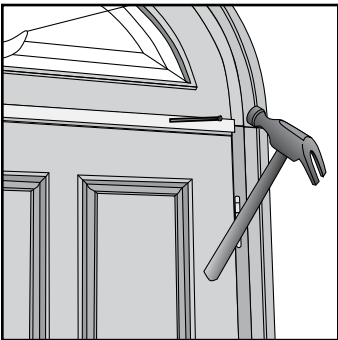

Fig. 41
- M. Measure cut and set mullion covers. Caulk and fasten with 1-1/2" finish nails (**Fig. 41**).